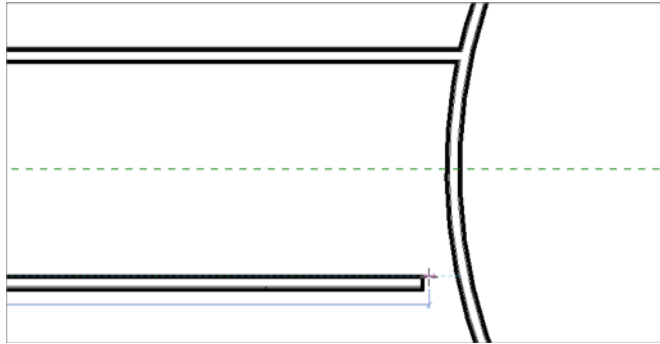

FIGURE 2.36 Getting a grip on the grips
3. Repeat the step for the bottom wall (see Figure 2.36).